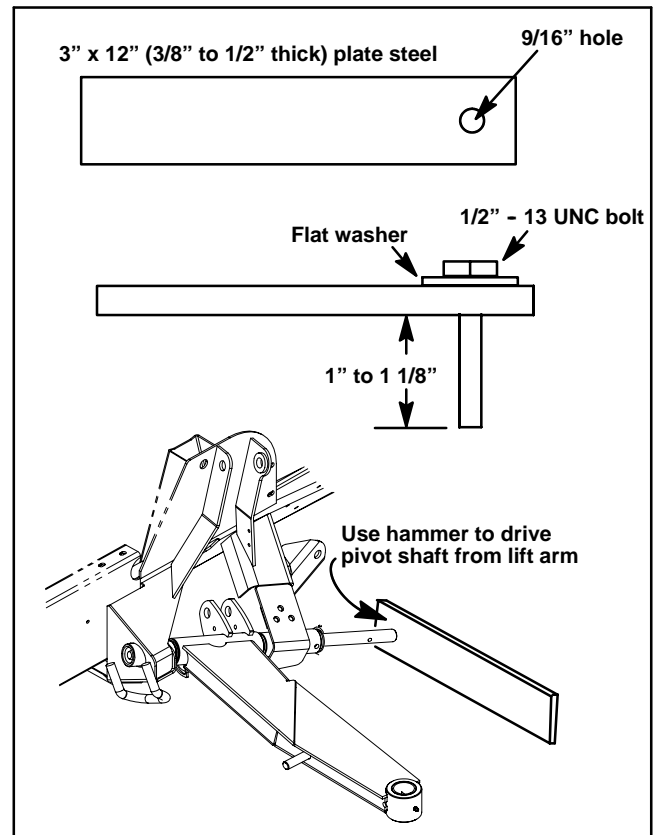

Figure 7
4. Remove lift cylinder pin (item 3) that secures lift cylinder to lift arm.
5. Drive out slotted roll pin (item 15) that retains lift arm pivot shaft. Discard roll pin.
6. Support lift arm and pull lift arm pivot shaft from lift arm and frame. Locate and remove thrust washers (item 5) during pivot shaft removal.
- A. If pivot shaft is difficult to remove, fabricate a puller as shown in Figure 7.